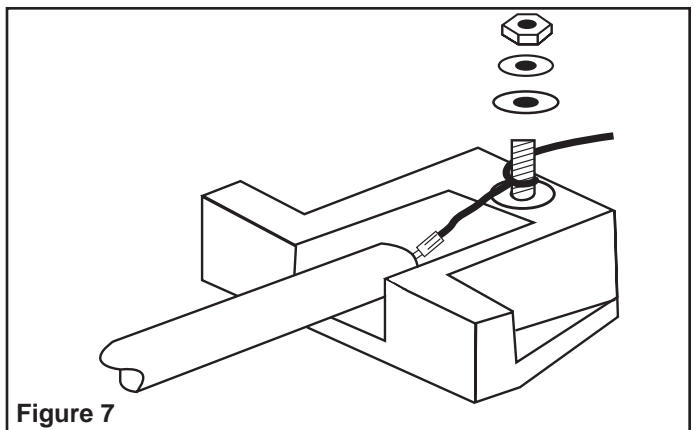

Figure 7
1. Remove terminal cover at each end of fixture to gain access to terminal blocks. Loosen #10 hex nuts on terminal studs. Then wrap element leads around terminals one full turn as shown in Figure 7. Tighten nuts, making sure